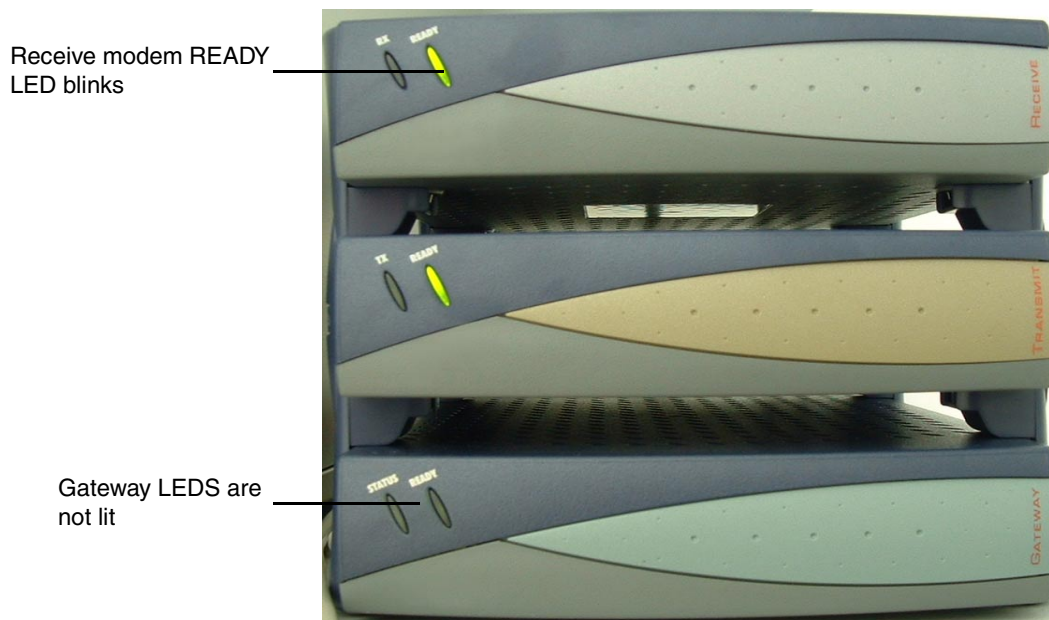

Figure 68: Gateway LEDs not lit
**Gateway LEDs not lit** If the Gateway does not seem to be functioning and its LEDs are not lit, and the receive modem READY LED blinks as shown in Figure 68, take the following steps.
If the Gateway does not seem to be functioning and its STATUS LED flashes amber, and the receive modem READY LED blinks or is not lit, as shown in Figure 68, take the following steps.